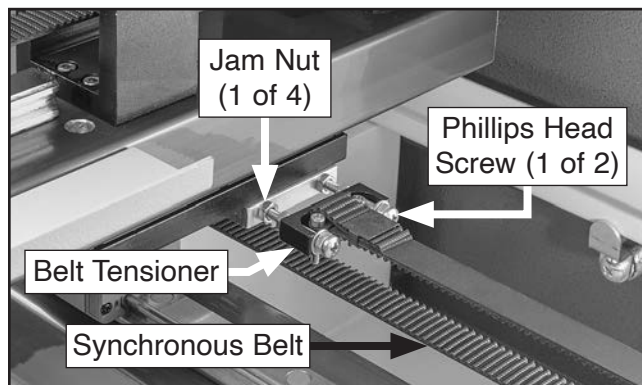

Figure 75. Y-axis belt tensioner components.
4. To adjust belt tension, loosen (4) jam nuts on belt tensioner, loosen or tighten (2) Phillips head screws, then secure jam nuts (see **Figure 75**). Repeat **Step 3**.